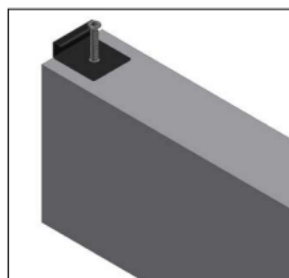

Figure 2
- 2) Fix End Clips with screws into the predrilled holes. (Figure 2)